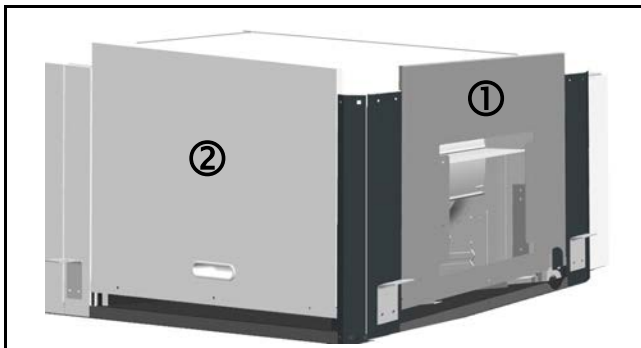

Fig. 10
1. Remove and discard the end [1] and side [2] panels. (See Fig. 10.)